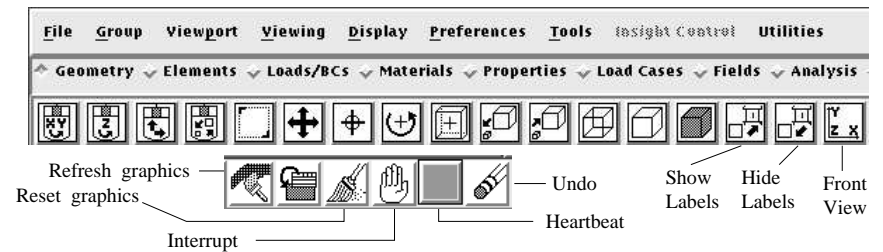

Figure 1: Main Form
The MSC/PATRAN Main form (Figure 1, also see Appendix A, page 3) should appear across the top of the screen.
- Choose 'Modelling Window' from this menu (2 pages). This shows the Main form and the Graphics viewport. Part of the Main form is shown in **Figure 1**.